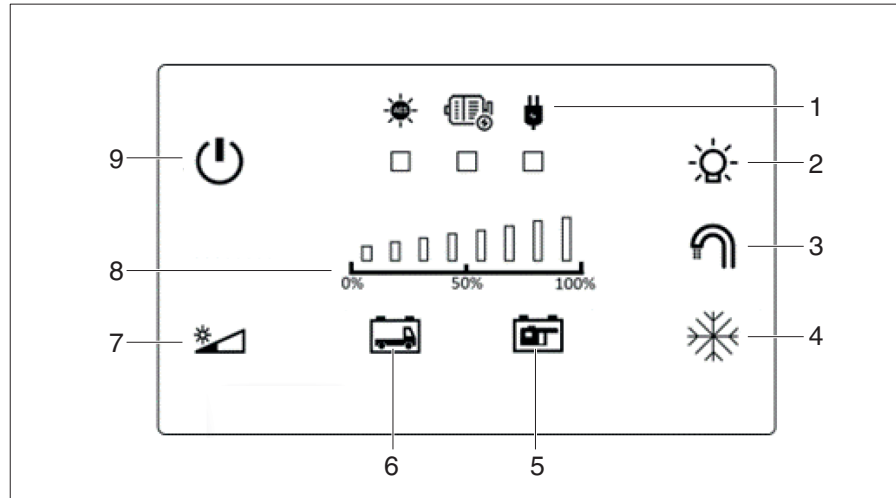

Fig. 43 Operating panel D110
The operating panel uses signal LEDs (Fig. 43, 1) to indicate which power source is being used to charge the living area battery.
The power button (Fig. 43, 9) is used to switch the operating panel on and off. The lighting is set to medium brightness as standard and can be adjusted manually by simply pressing the dimming button (Fig. 43, 7). Regardless of the brightness level set, the lighting is dimmed when inactive and reactivated by pressing any button. The last brightness level used is retained. The dimming button (Fig. 43, 7) always lights up yellow, except in night mode.
Press and hold the dimming button (Fig. 43, 7) to switch the operating panel to night mode. Only the dimmer button is illuminated dimly in red to avoid confusion with a switched-off operating panel.
If the battery voltage is very low, the monitoring buttons (Fig. 43, 5) and (Fig. 43, 6) on the operating panel flash.
- Press the monitoring button (Fig. 43, 5).
The charge status of the associated battery is shown on the LED monitoring display (Fig. 43, 8).
If the starter battery voltage is very low, the corresponding monitoring button (Fig. 43, 6) on the operating panel flashes white. If the vehicle is connected to solar or shore power, the E-Box ensures that the starter battery is kept charged. To fully charge the battery, the vehicle must be moved so that charging can take place via the alternator.
If the battery voltage of the living area battery is low, the corresponding monitoring button (Fig. 43, 5) on the operating panel flashes red. If the living area battery is not charged, the battery voltage continues to drop. When a critical value for the battery is reached, battery protection kicks in.